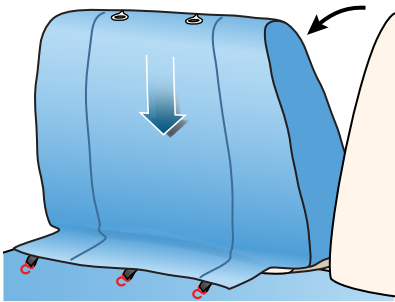

Fig. 7.4
A. If the backrest folds forward, the backrest cover installation is the same as the procedure used for the front row (see instructions in **Step 3** on other side). With the headrests removed, release the seat back and partially fold down the backrest so you can pull the cover over each section of the backrest, adjusting it for the best fit (*Fig. 7.4*). Attach S-hooks to the elastic straps on the front flap and squeeze the end with the strap closed with pliers as shown in *Fig. 2.2*. Push the straps and the front flap from the front to the back at the bottom of the backrest. Reach behind the backrest and link the straps together with the S-hooks using the Hook-to-Loop technique (*Fig. 7.5*).